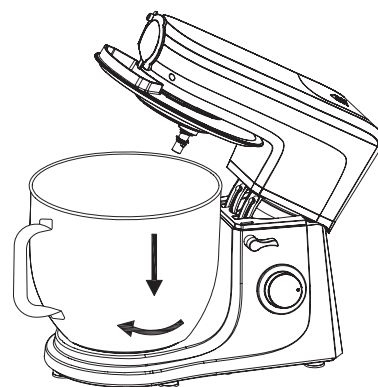

Fig3
4. Weigh the food and water to be processed into the bowl [4], then assemble the bowl [4] on the machine, rotate clockwise until the buckle is screwed in and locked. [Fig3]